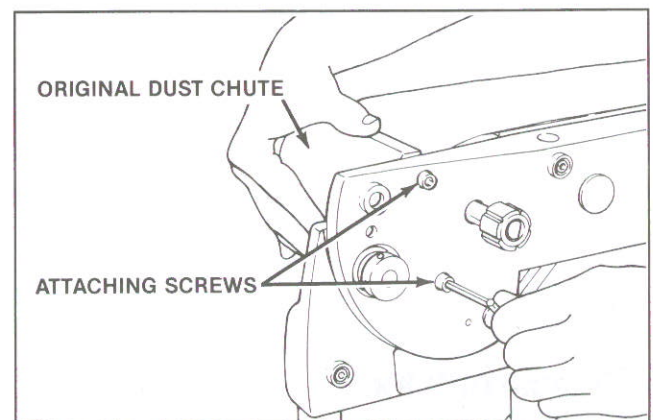

Figure 3.
**3. Remove the original dust chute.** Use a 1/4" Allen wrench to remove the two socket head screws that attach the dust chute to the right frame side. (See Figure 3.)